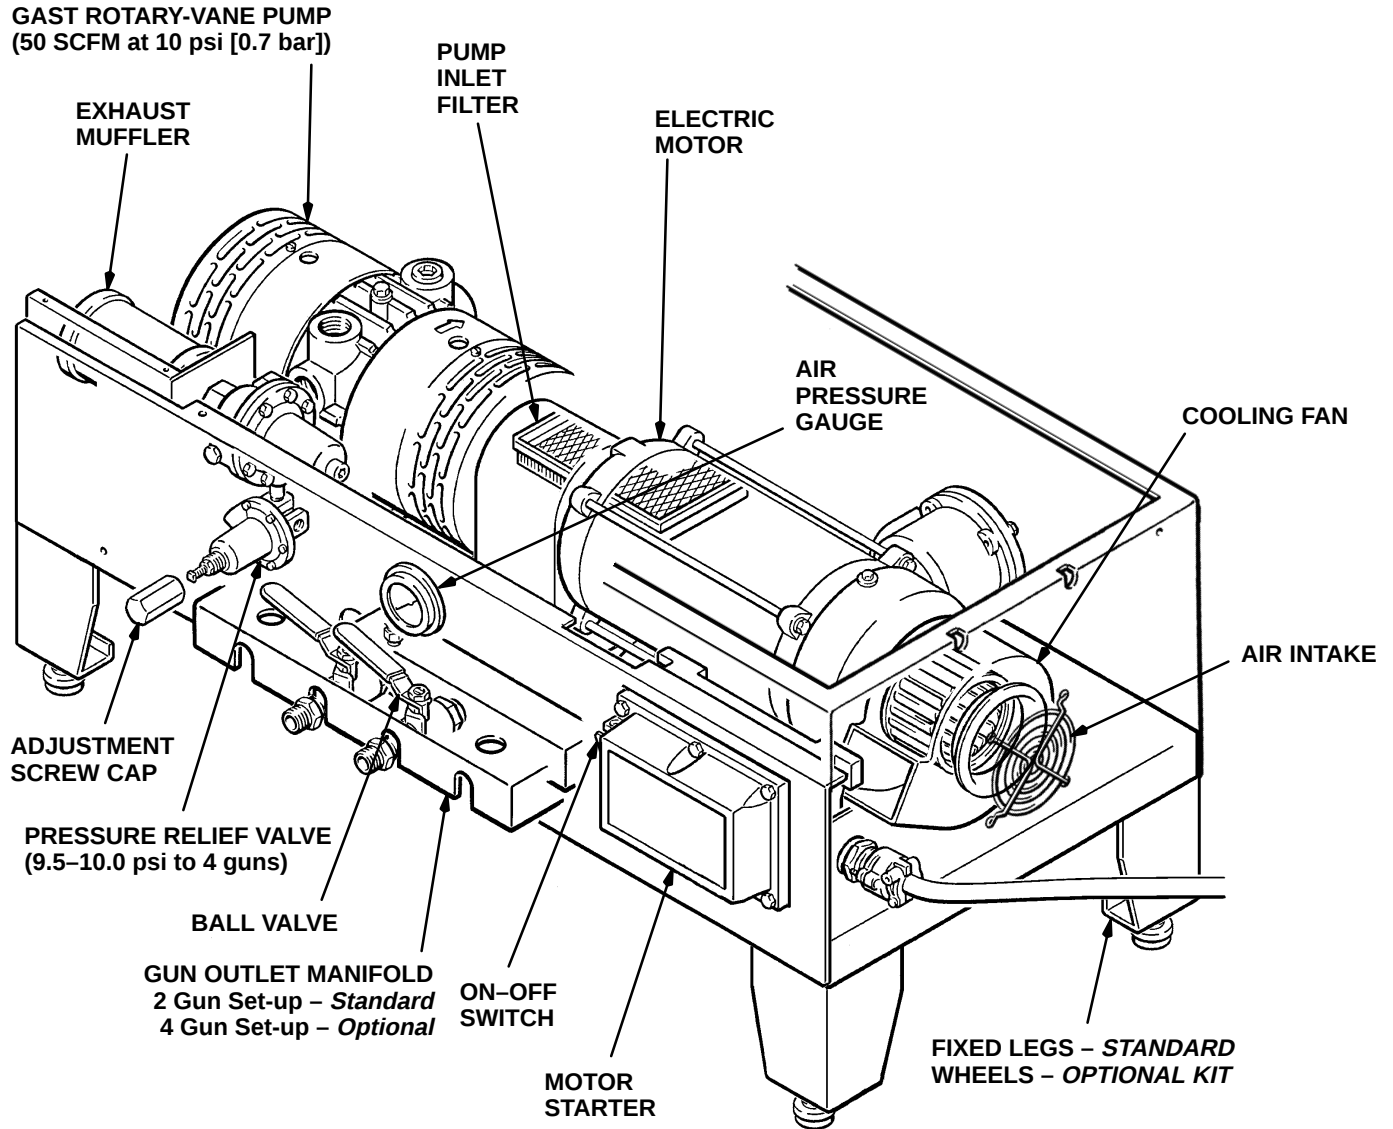

Fig 1
2. Check which direction the cooling fan (in the air intake enclosure) is turning. Refer to Fig 1.
1. Turn the 8000 System ON-OFF switch to ON. Open the ball valve. See Fig 1.